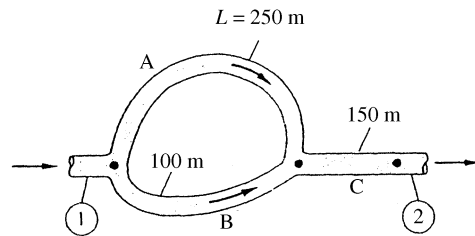

Fig. P6.116
6.116 For the series-parallel system of Fig. P6.116, all pipes are 8-cm-diameter asphalted cast iron. If the total pressure drop $p_1 - p_2 = 750$ kPa, find the resulting flow rate Q m³/h for water at 20°C. Neglect minor losses.